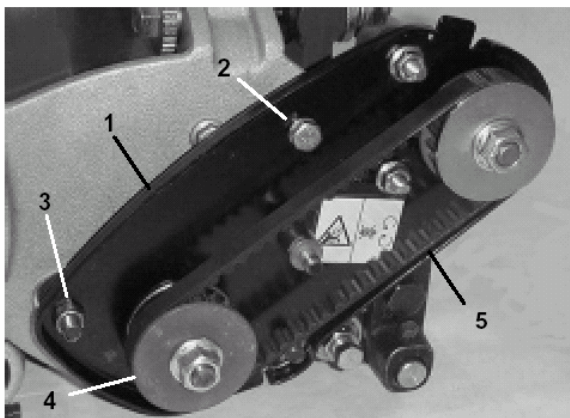

Figure 1
5. Block the reel with a piece of wood to prevent it from turning. Remove the flange nut securing the drive pulley to the reel shaft (Fig. 1). Remove the pulley from the shaft. Remove the woodruff key and the spacer from the reel shaft.
6. Loosen and remove the two locknuts, capscrew and lockwasher securing the reel drive plate assembly to the left side of the cutting unit (Fig. 1). Remove the assembly from cutting unit sideplate. Remove the spacer from behind the reel drive plate.
23. Reinstall the reel drive belt to the pulley and drive assembly (Fig. 1). Adjust the drive belt tension and install the belt cover. Refer to the Operator's Manual for the adjustment procedure.